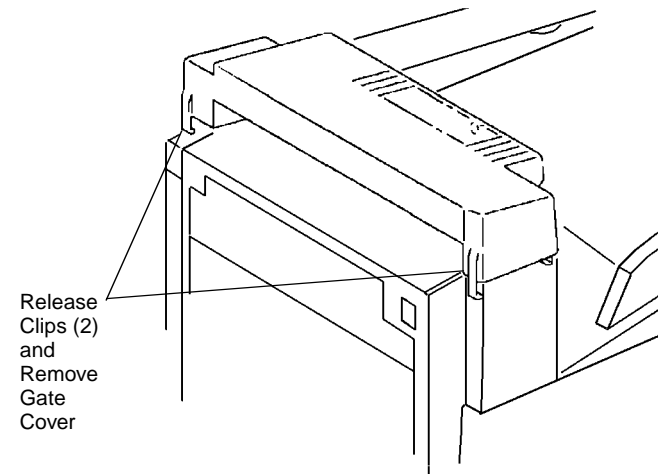

Figure 2 Removing Gate Cover
6. Remove Gate Cover (Figure 2).